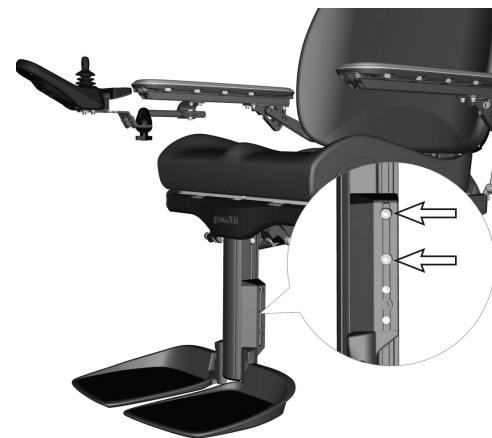

Figure 106. The height of the footplates is secured using the outer locking screws
1. Undo the footplates locking screws. See Figure 106.